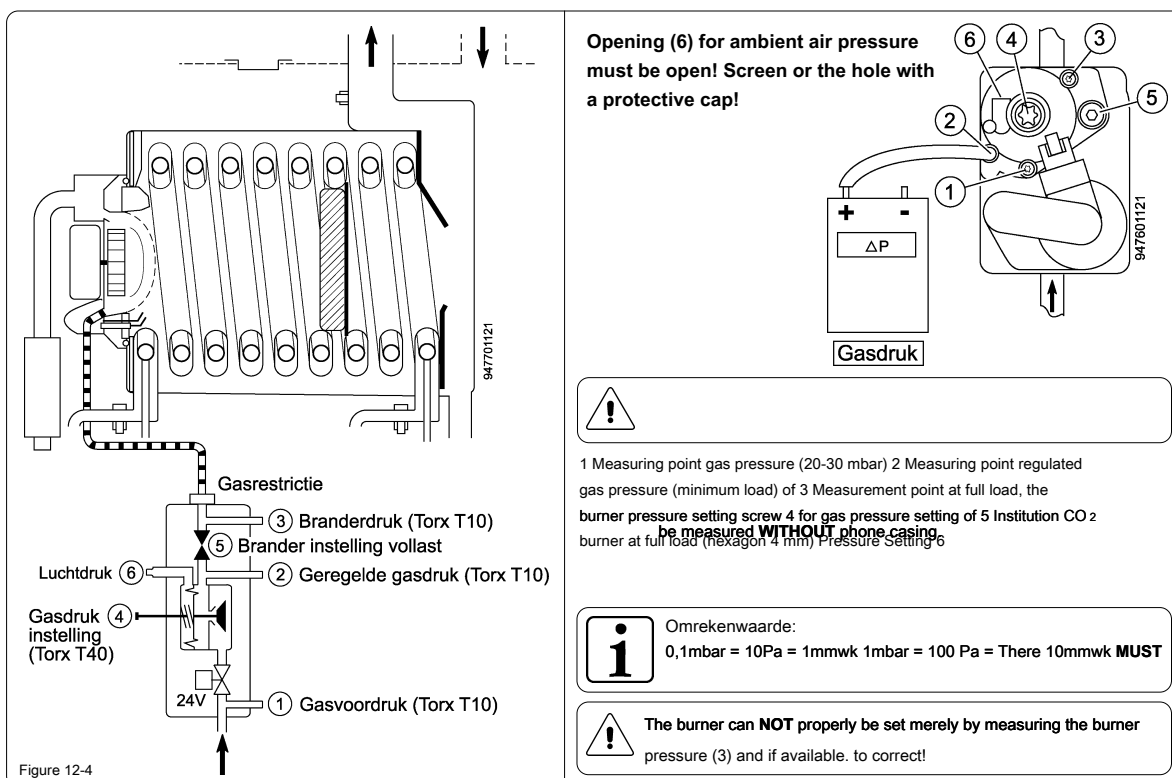

Figure 12-4
At the measuring point (1) (figure 12.4) of the gas valve, the gas pressure can be measured. Check the following:
12.2.6 Check the gas pressure setting of the gas valve (measuring points (1) and (2) opening with Torx T10)